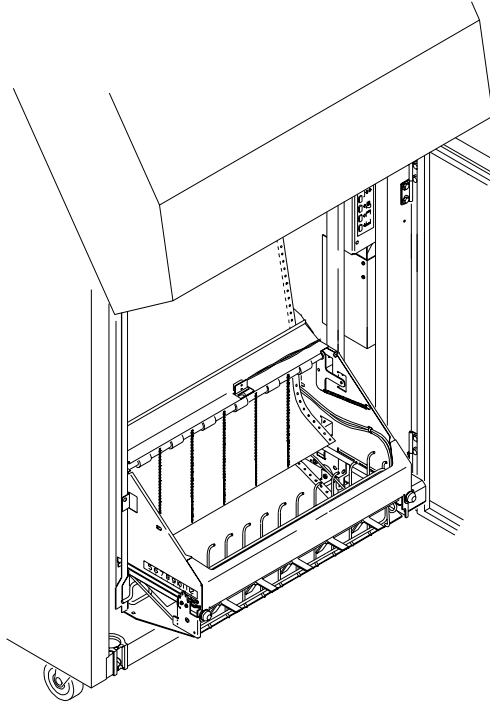

Figure 64. Power Stacker in Print Position
3. Press the ON LINE key on the rear control panel or the Start key on the front control panel to put the printer in the READY state. The stacker elevator will descend to its lowest position. (See Figure 64.)